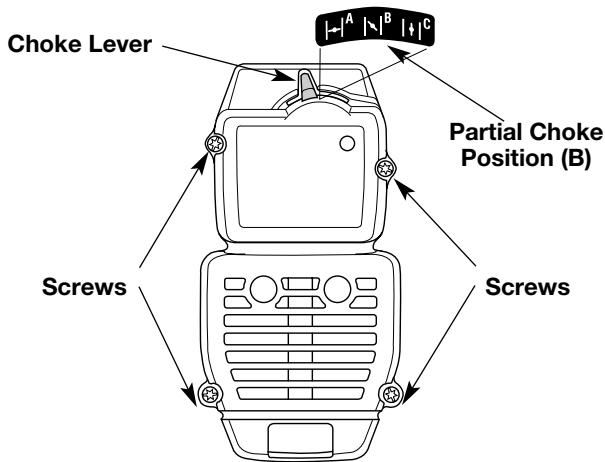

Fig. 31
NOTE: The choke lever must be in the **PARTIAL** choke position (**B**) (Fig. 31) to remove the air filter/muffler cover.
2. Remove the four (4) screws securing the air filter/muffler cover (Fig. 31). Use a flat blade or T20 Torx bit screwdriver.
NOTE: The choke lever must be in the **PARTIAL** choke position (**B**) (Fig. 31) to install the air filter/muffler cover.